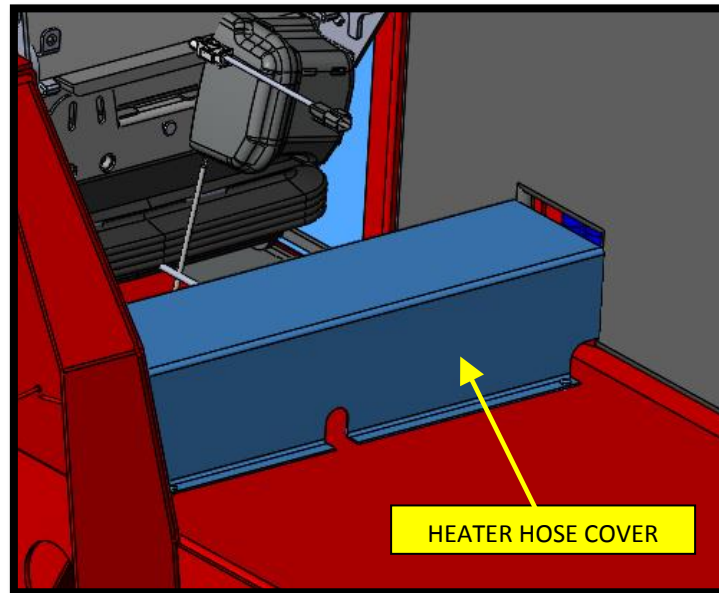

**FIG. 18-2**
32. Reinstall B-Pillar trim located behind officer seat using retained hardware. Refer to FIG. 18-2.